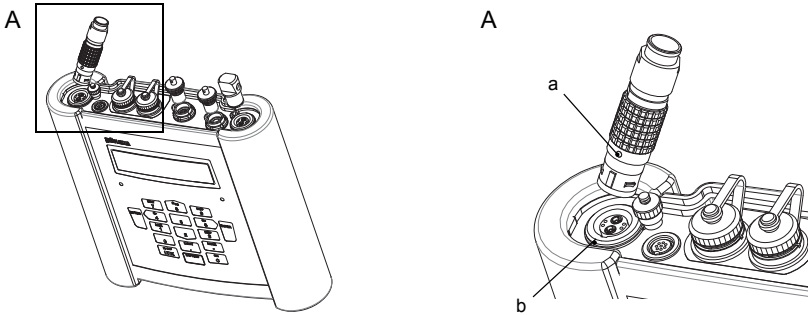

Fig. 7.7: Connection of the transducers
- Insert the connector of the transducer cable in the socket of the transmitter. The red point (a) on the connector must align with the red marking (b) on the socket (see Fig. 7.7).